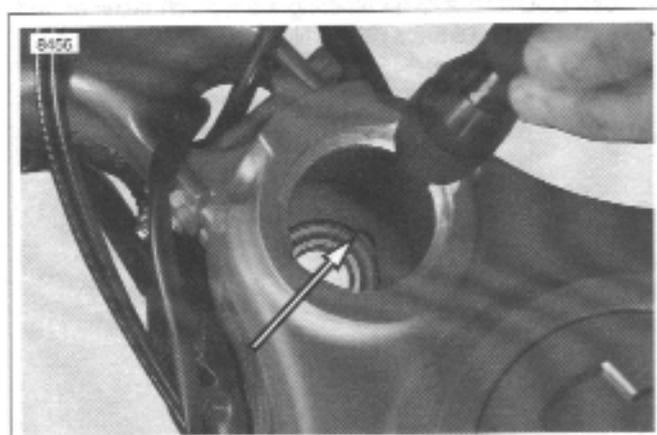

Figure 2-70. Lower Steering Head Bearing Notches (upper bearing removed for clarity)
- b. Brace wheel while removing steering stem cap fastener (1).
- c. Remove upper fork clamp (4) and front-end assembly which includes front wheel, steering stem/lower fork clamp.
4. Remove upper and lower steering head bearings (5).
- a. See Figure 2-70. Locate notches inside steering head stem bore (upper bearing removed for clarity).